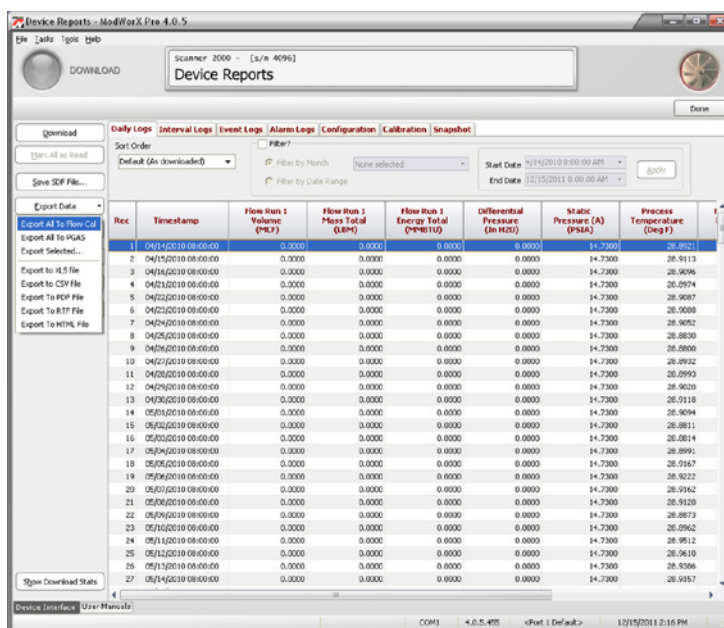

Figure 14.40
1. Click the **Export Data** button at the left of the screen (Figure 14.40) and select **Export All to Flow-Cal**. Or for PGAS files, select **Export All to PGAS**.